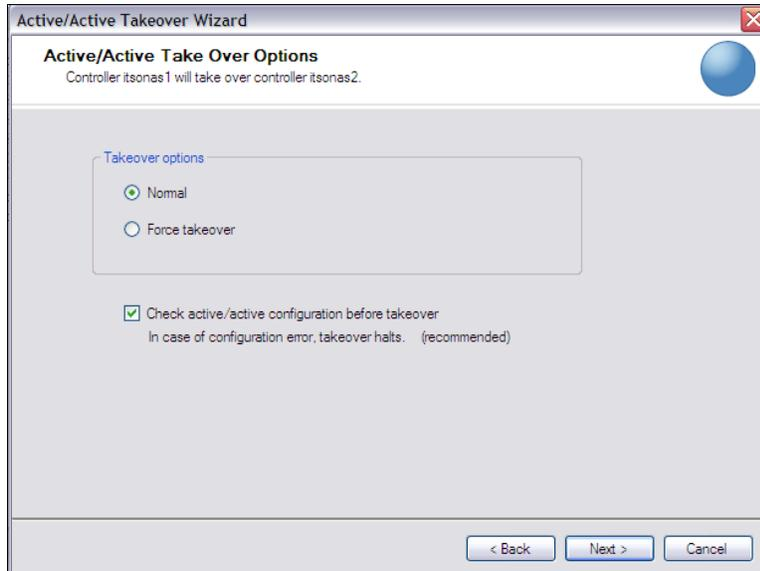

Figure 7-8 System Manager initiating takeover: Step 2
3. Figure 7-8 shows the Active/Active takeover wizard step 2. Click **Next** to continue.